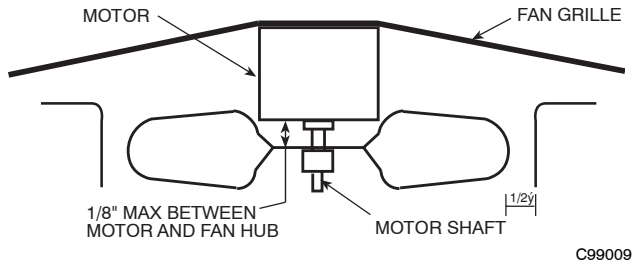

Fig. 12 - Fan Blade Clearance
- c. Ensure fan hub is positioned correctly with respect to motor housing (See Fig. 12).